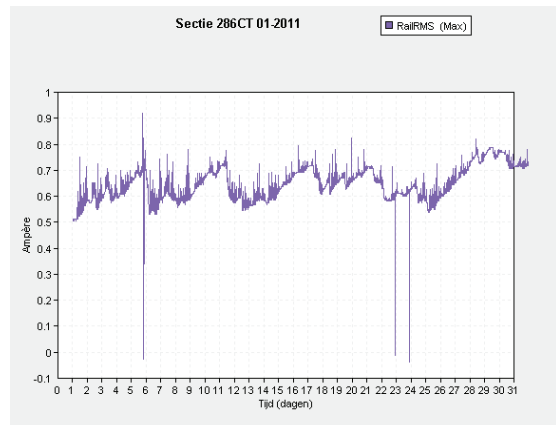

Figure 2 Trends in ballast resistance
- Trends in the electrical resistance of the ballast, as a measure of the quality of the train detection. Fluctuations in the rail power circuit indicate the external effects of weather conditions (Figure 2 Trends in ballast resistance)